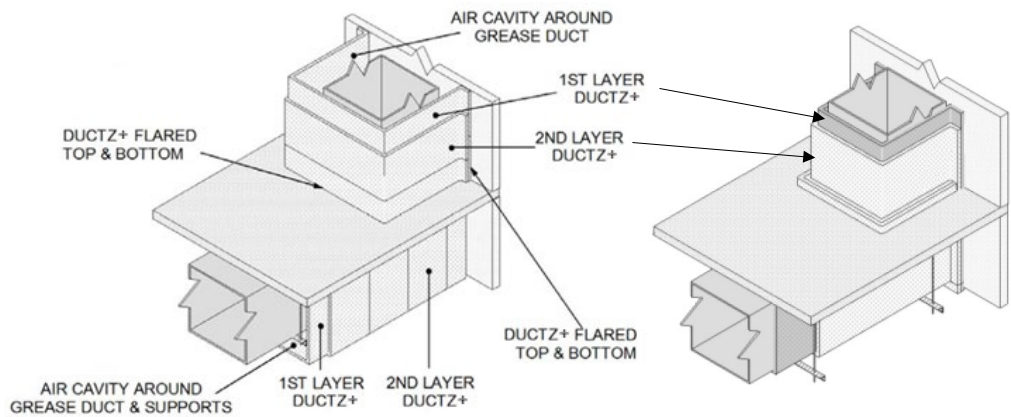

Figure 3. Three-Side Installation Top Isometric (Shown with and without Optional Air Cavity)
- B. THREE-SIDED INSTALLATION – Refer to Figures 3 and 4.